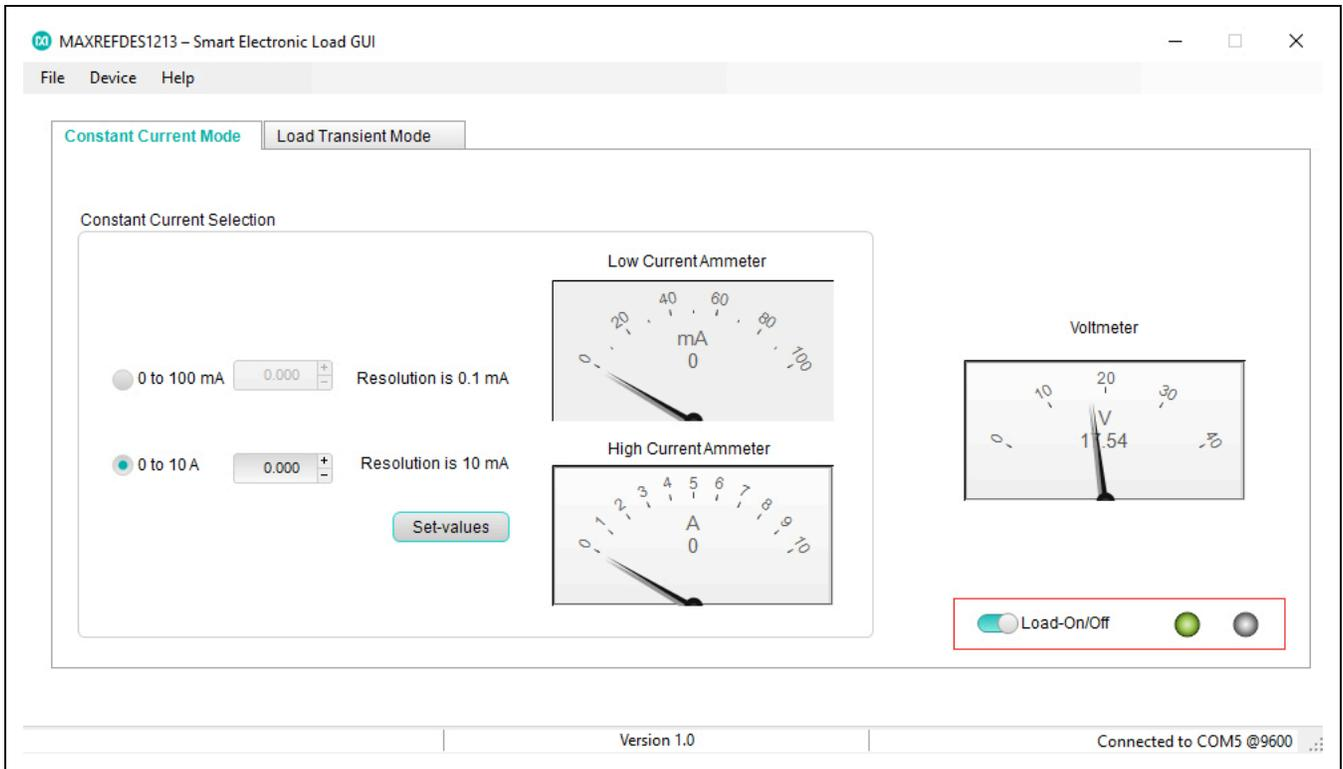

Figure 7. Constant Current Mode tab with the load turned on and the indicator turned green.
- **Set-values:** This button loads the selected current values into the E-load. Make sure that **Load-On/Off** is turned on before setting the current values. The GUI starts reading the current values only after **Load-On/Off** is checked and the indicator turns green, as seen in Figure 7.